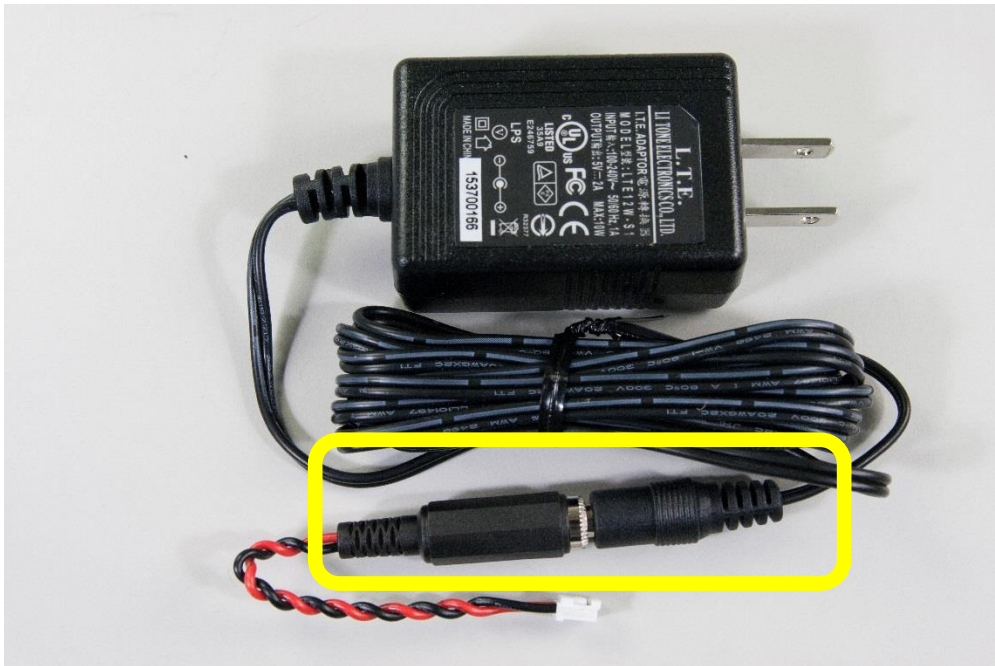

Figure 2-4 Connect DC adapter cable and 5V power adapter.
2. Connect the DC Power cable and the 5V power supply; refer to **Figure 2-4**.